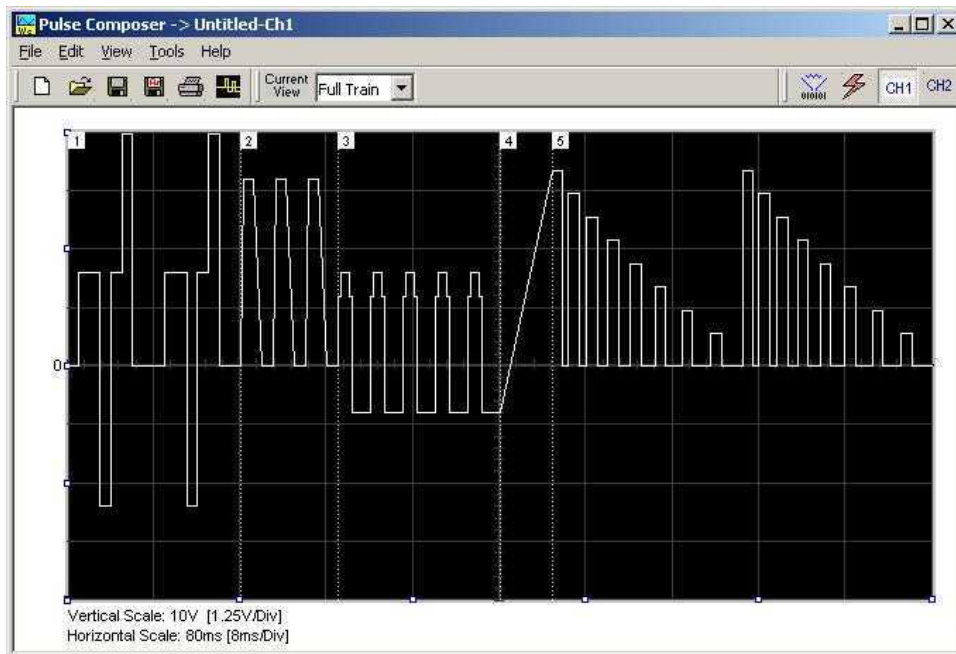
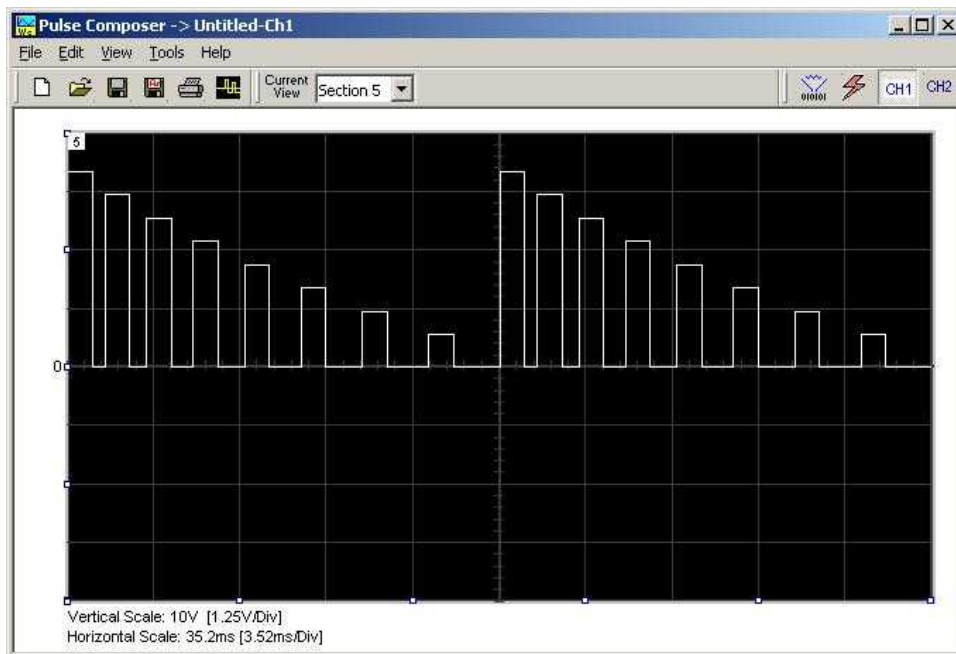
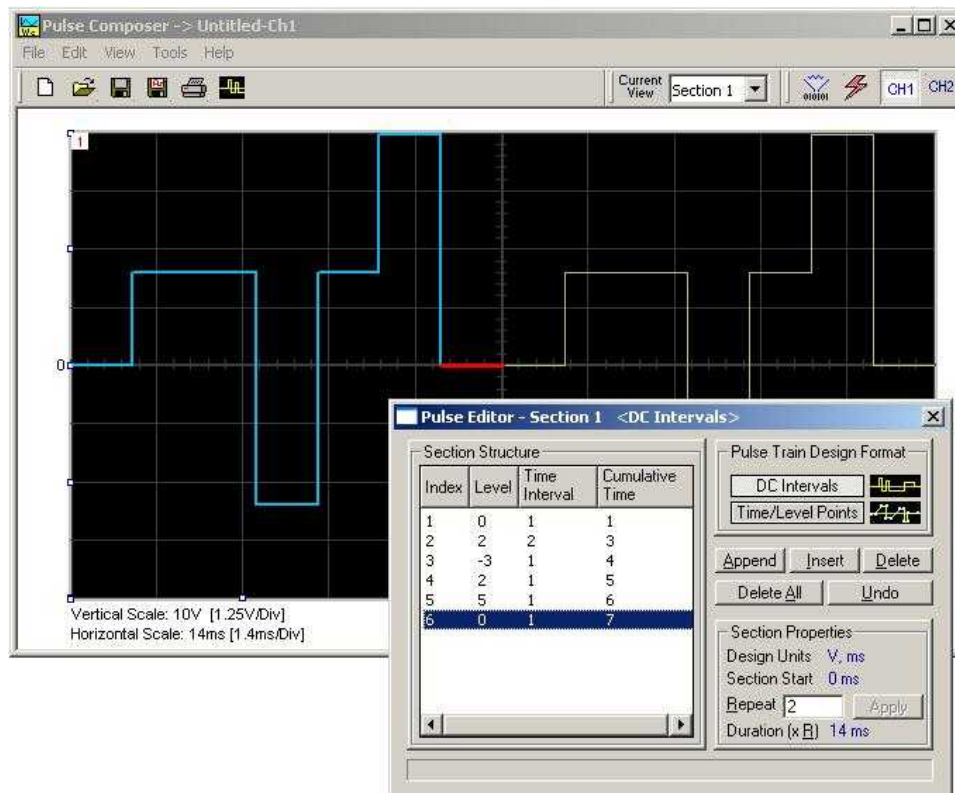

Figure 4-33, Complete Pulse Train Design
Figure 4-34, Section 5 of the Pulse Train Design
Figure 4-37, Building Section 1 of the Pulse Example
Pulse train is constructed from 1 or more sections. If the pulse is simple, it can be created using one section only. For more complex pulse train, the train can be divided to smaller sections and each section designed separately for simplicity. Figure 4-33 shows a complex pulse train which was made from five simpler sections and Figure 4-34 shows the design of the fifth section only of the pulse train.
Now that we somewhat understand the terms we use for the pulse design, we start with an example how to design the pulse train as shown in Figure 4-34. If you already have some pulses shown on your pulse composer screen, click on New to start from a fresh
**Pulse Example, Section 1** Now that we are better familiar with the pulse editor and its options, we are ready to start building the first section of the pulse as shown in Figure 4-33. Point and click on the New icon and open the pulse editor. Type in the level and time intervals as shown in Figure 4-37. Note that the pulse segments are being created on the screen as you type the values.
**Pulse Example, Section 2** The first pulse section is complete. We are ready now to start building the second section of the pulse as shown in Figure 4-33. Point and click on the Edit command and select the Append Section option. A new section number will appear but it will show empty next to the section identifier.
**Pulse Example, Section 3** The second pulse section is complete. We are ready now to start building the third section of the pulse as shown in Figure 4-33. Point and click on the Edit command and select the Append Section option. A new section number will appear but it will show empty next to the section identifier.
**Pulse Example, Section 4** The third pulse section is complete. We are ready now to start building the fourth section of the pulse as shown in Figure 4-33. Point and click on the Edit command and select the Append Section option. A new section number will appear and will show empty next to the section identifier.
**Pulse Example, Section 5** The fourth pulse section is complete. We are ready now to start building the fifth and final section of the pulse as shown in Figure 4-33. Point and click on the Edit command and select the Append Section option. A new section number will appear and will show empty next to the section identifier.
Congratulations for coming that far. If you followed the above description how to build this pulse example, the screen should look exactly as shown in Figures 4-33 and 4-41. If you are happy with the results, the next step is to download what you see on the pulse composer screen to the generator.